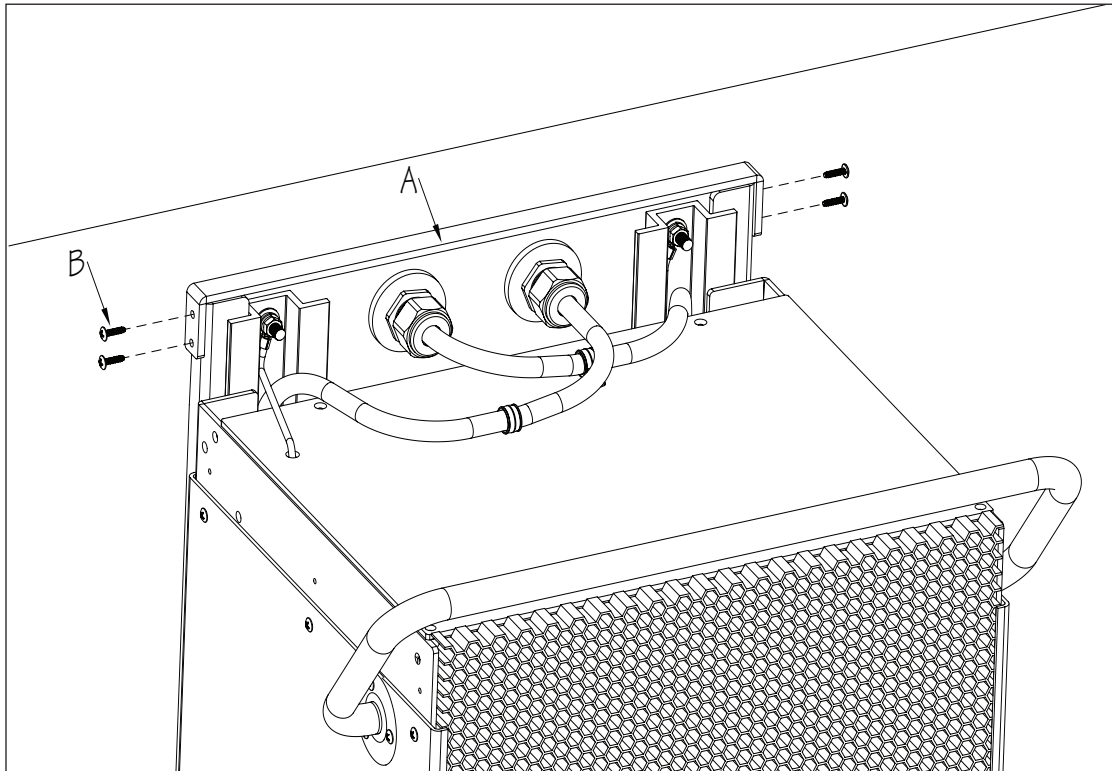

Fig. 12
5. Attach the Standoff Bracket Top (A) to the left and right Standoffs using the 1" Phillips Truss Head Screws (B) (Fig. 12).